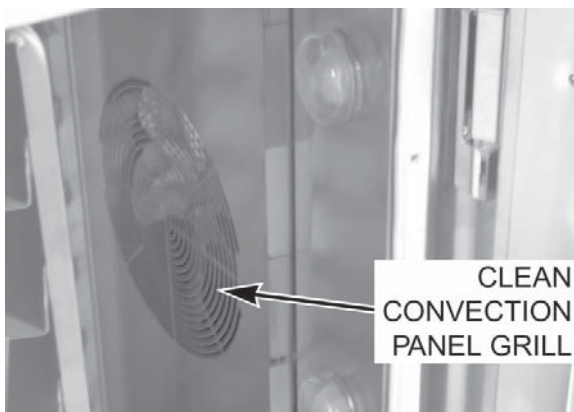

Fig. 6
- A. Clean convection panel grill (Fig. 6) of dust and/or lint accumulation.